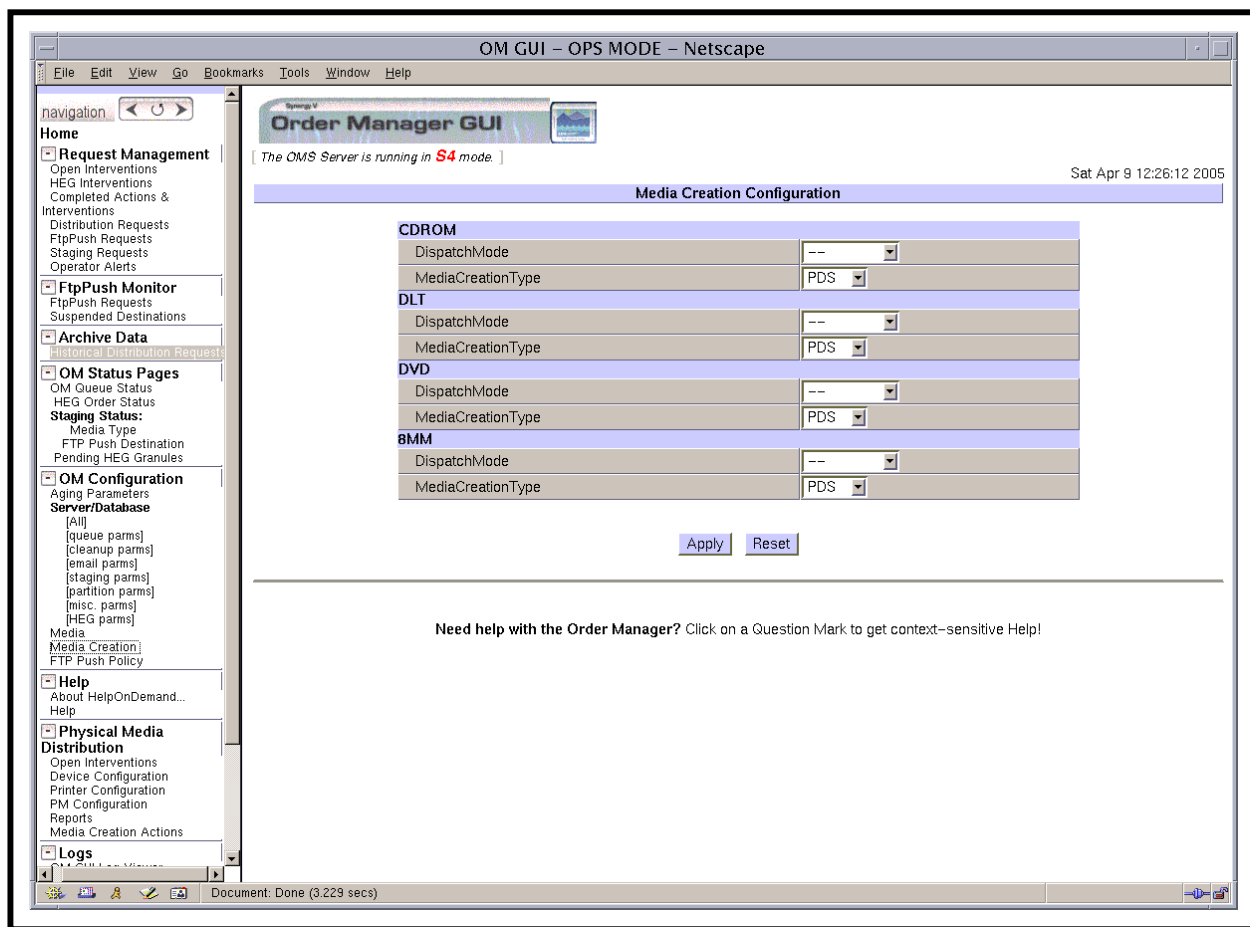

Figure 64. Media Creation Configuration Page
The **Media Creation Configuration** page (Figure 64) provides the full-capability operator with a means of checking and modifying media creation parameter values.
- 2 If the **Media Creation Configuration** page (Figure 64) is not already being displayed, click on the **Media Creation** link in the navigation frame of the **OM GUI**.
- The **Media Creation Configuration** page (Figure 64) is displayed.